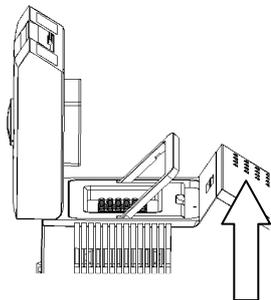

Figure 3
Step 1: Move the handle to the state vertical to the shell to make the module parts unlocked. (See Figure 3)